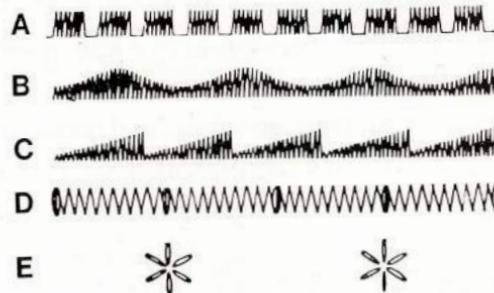

Fig. 20
- “A” Sew a few stitches at 5 width then turn knob back to 0 for a short period. Count, if necessary, to establish a rhythm. (A, Fig. 20)
- “B” Move the zigzag width control slowly back and forth between the number 2 and number 0 (B, Fig. 20)
- “C” Gradually move the zigzag width control from 0 to 5 and instantly return to 0. Then, repeat likewise. (C, Fig. 20).
- “E” Set drop feed knob at “ Δ ” position and zigzag width control at the number 5 position. Take 3 or 4 stitches, leave needle in fabric and pivot fabric on needle to make next daisy petal. Continue until flower design is completed. Lock threads by setting stitch width at 0 and sewing 3 or 4 stitches in center of design. (E, Fig. 20).